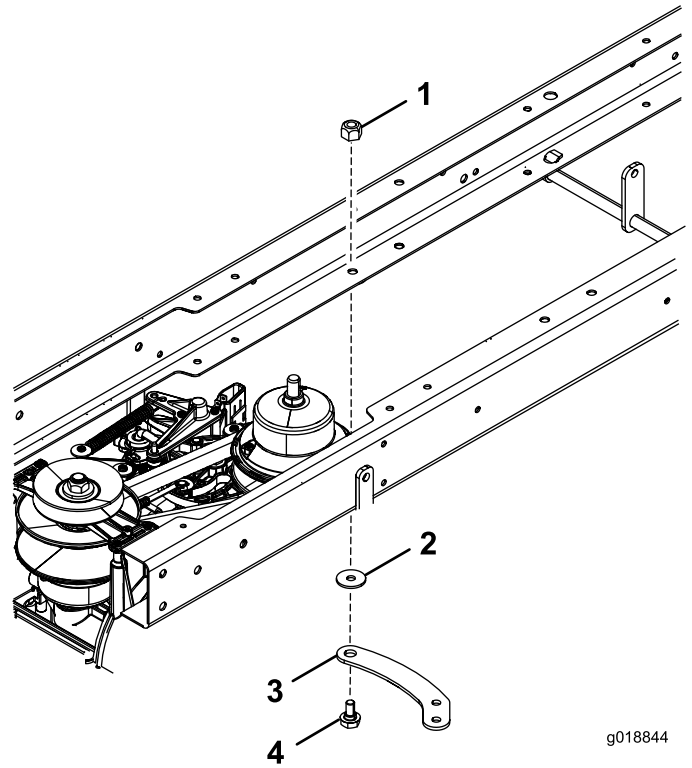

Figure 2
3. Install the traction bracket link arm using the locknut (5/16 inch), pivot washer and shoulder bolt (Figure 2).